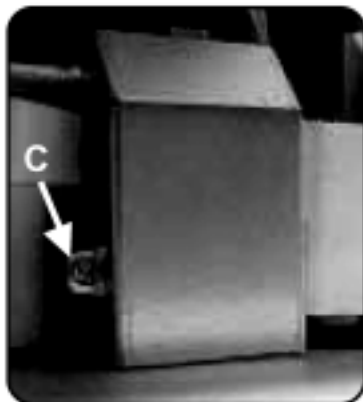

Figure 13/Ilus. 13
- 1) Remove the junction box cover by removing the screw on the left side of the junction box, as shown in Figure 13, letter C, and lifting the junction box cover up and off.